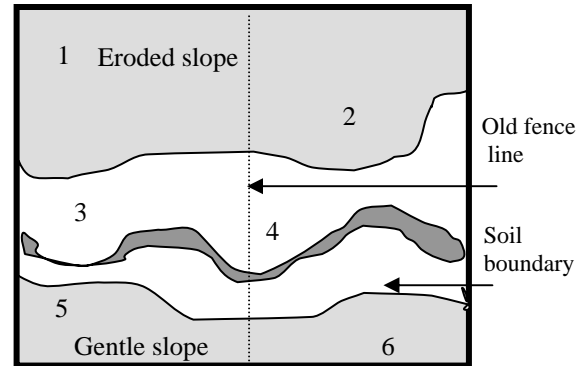

Figure 1: There are ideally 6 different management units in this field because of differences in landscape position and past management.
1. **Define the management units.** A management area is an area that **can** and **will** be managed separately from any other. If different field areas have different soil types, past cropping histories, or different production potentials, these areas should be sampled separately and managed separately (See *Figure 1*). If it is impossible for a farmer to manage different areas separately, they should be treated as one management unit.